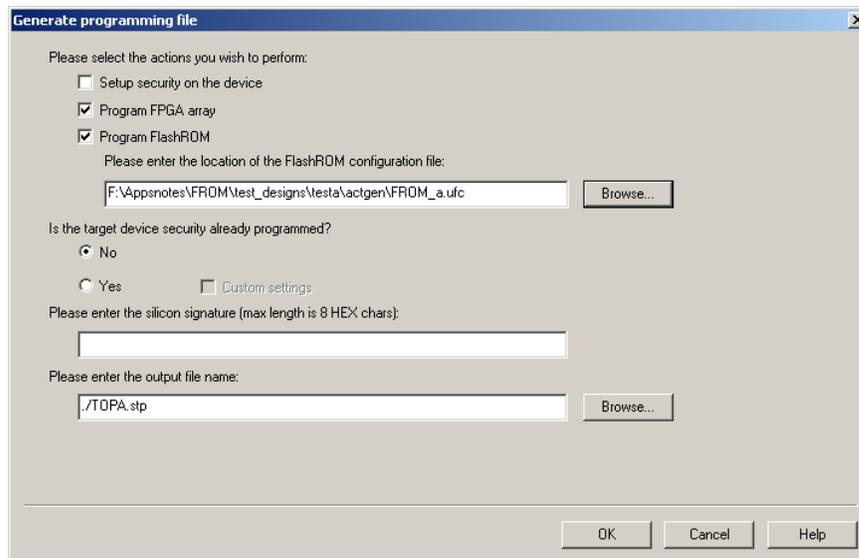
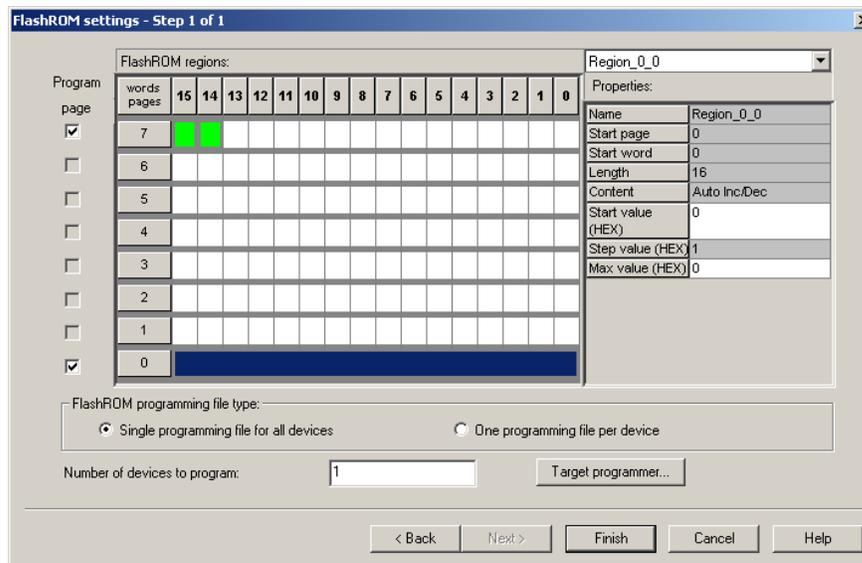

Figure 6-12 • Programming File Generator
Figure 6-13 • Setting FlashROM during Programming File Generation
Figure 6-12 shows the programming file generator, which enables different STAPL file generation methods. When you select **Program FlashROM** and choose the UFC file, the FlashROM Settings window appears, as shown in Figure 6-13. In this window, you can select the FlashROM page you want to program and the data value for the configured regions. This enables you to use a different page for different programming files.
3. Select **Programming File in Designer** and open **Generate Programming File** (Figure 6-12 on page 202).
4. Click **Program FlashROM**, browse to the UFC file, and click **Next**. The FlashROM Settings window appears, as shown in Figure 6-13 on page 202.